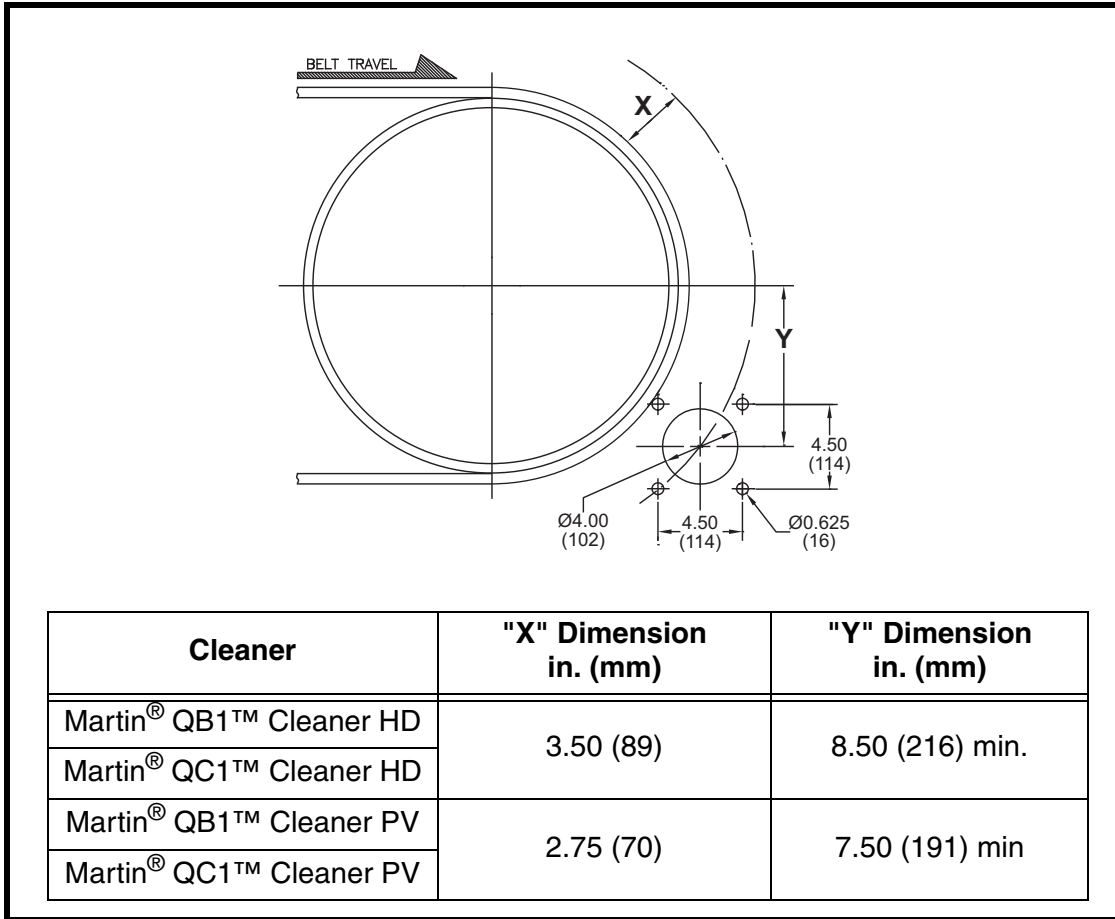
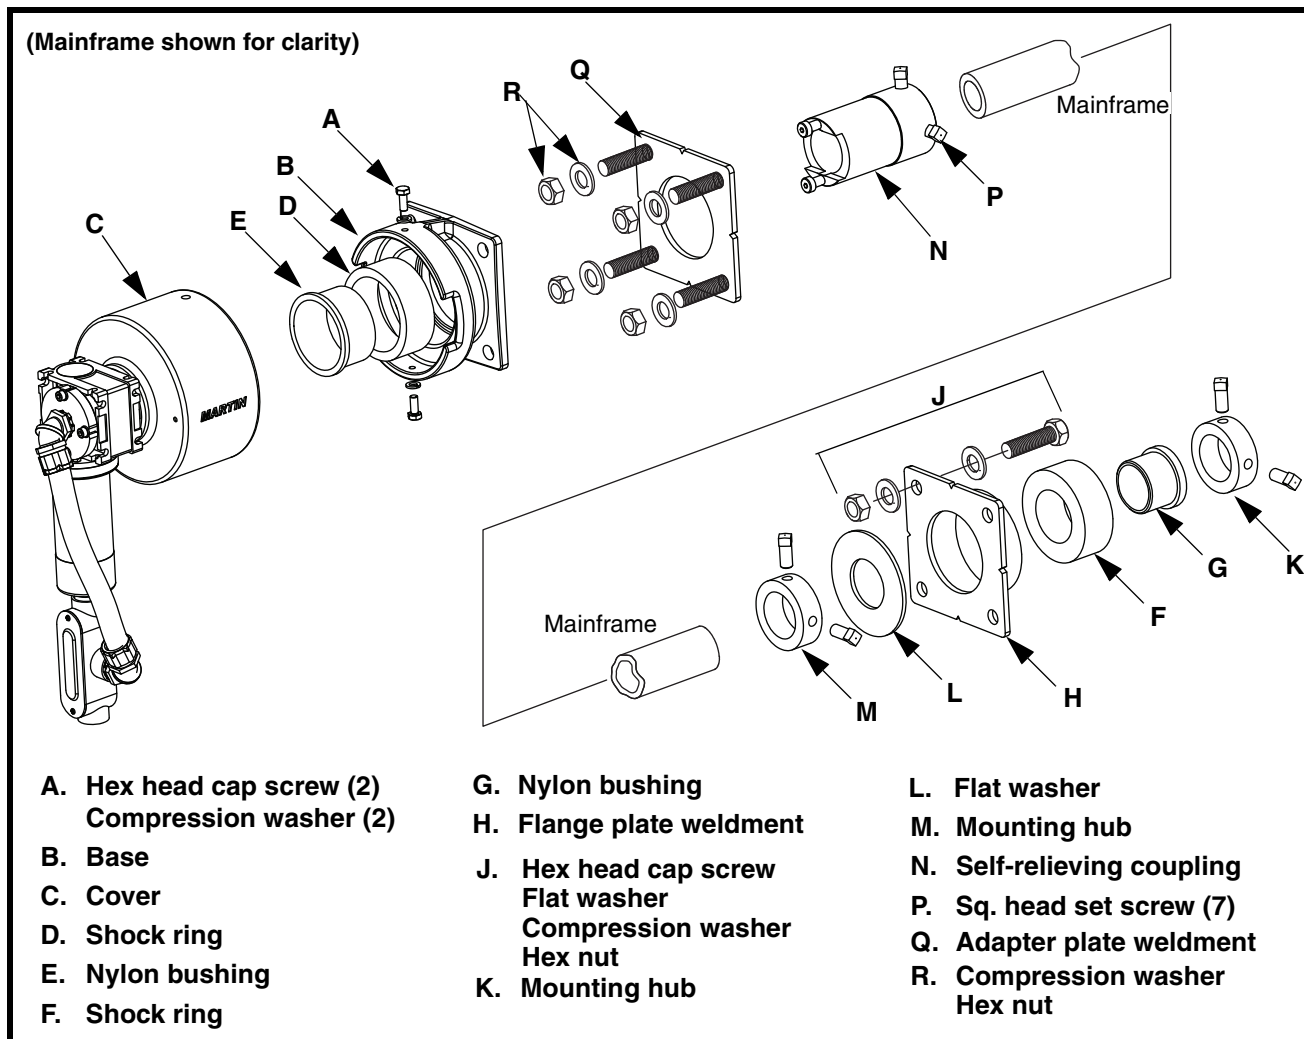

Figure 4. Locating Mounting Plates
Figure 5. Martin® N2 Twist Tensioner Assembly
1. Mark location of holes for belt cleaner mounting plates on chute walls according to Figure 4. Use flange plate weldment (H, Figure 5) as template.
- (1) Drill or cut one 4-in. hole for mainframe and four 5/8-in. holes for screws in both operator side and far side chute walls. Remove burrs and sharp edges.
- (2) Install tensioner assembly and mounting plate onto wall with cap screws, flat washers, compression washers, and nuts (J, Figure 5).